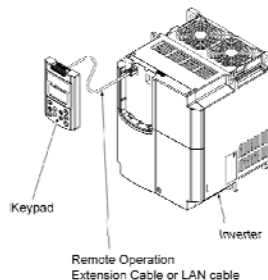

Figure 2.31 Installing a Keypad at a Remote Site (e.g. for Operation on Hand)
- Installing a keypad at a remote site (e.g. for operation on hand) (Refer to Figure 2.31.)